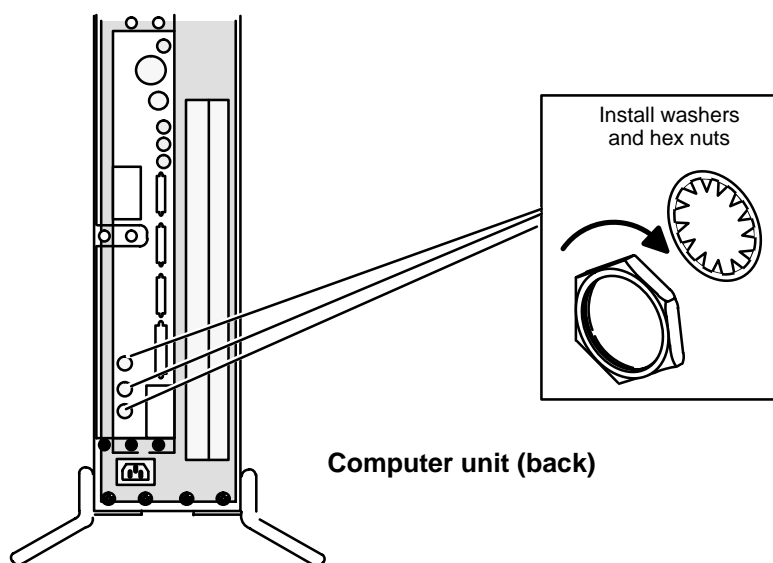

*Figure 9-25 Replacing the Board-Retaining Screws*
4. Replace the board-retaining screws after you have installed all the option boards as shown in Figure 9-25.